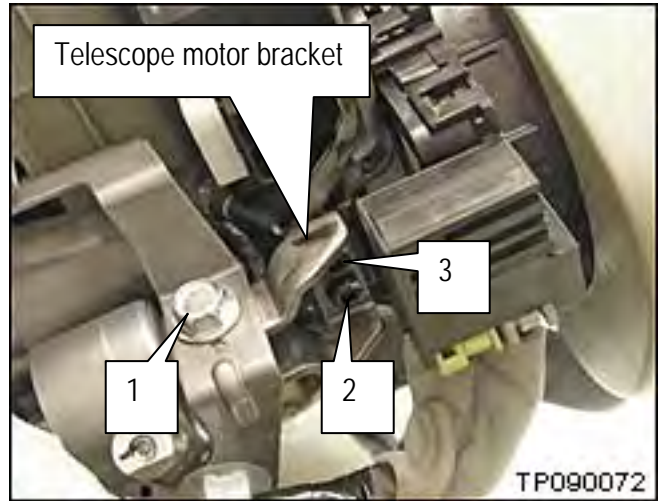

Figure 14
9. Remove the three bolts shown in Figure 14.